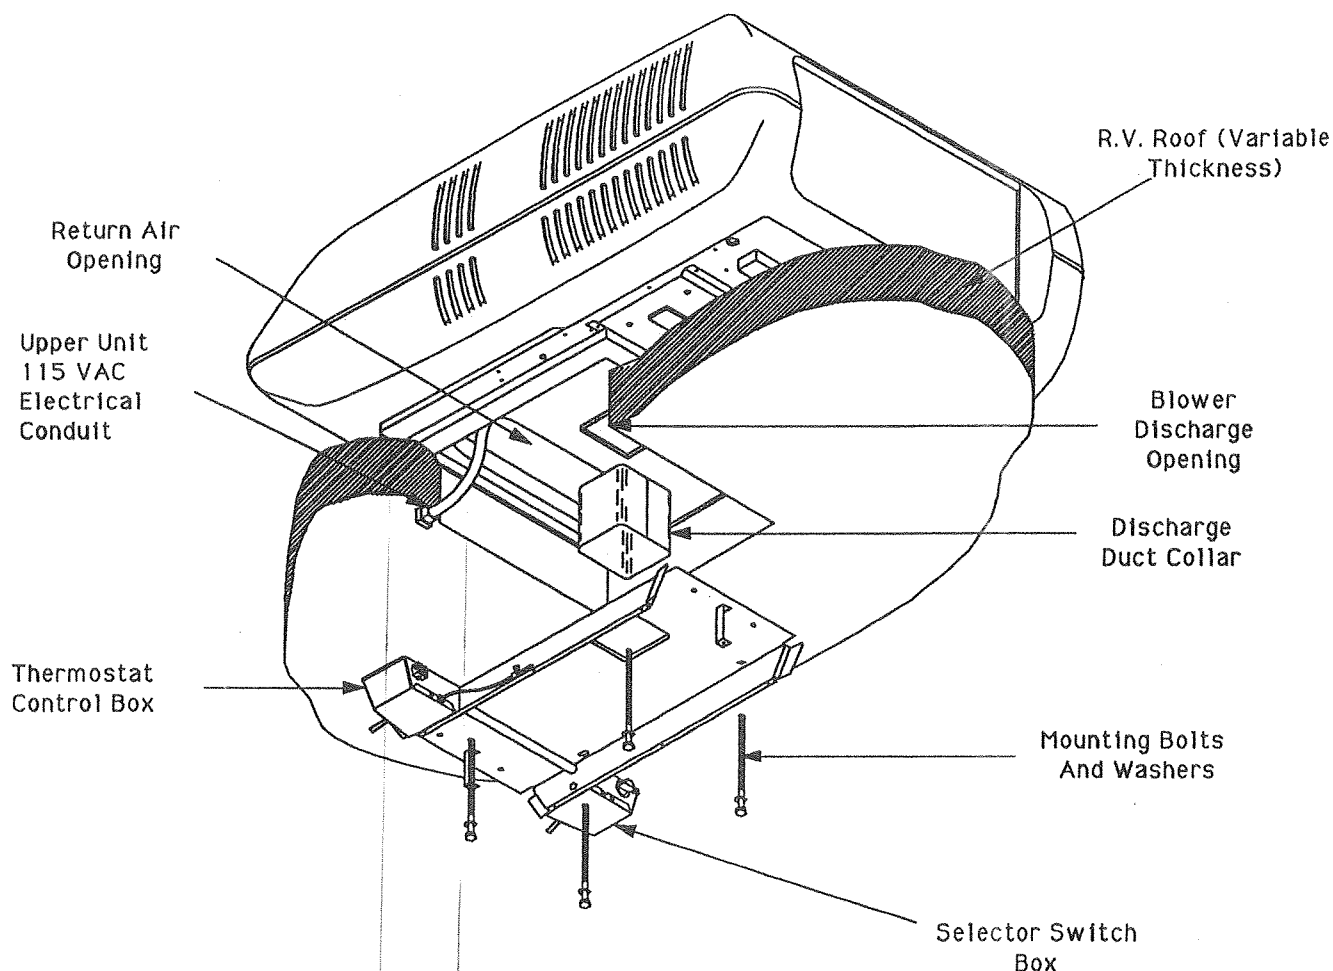

FIGURE 7
evenly compressed 50%. Figure 7 shows typical four (4) bolt installation.